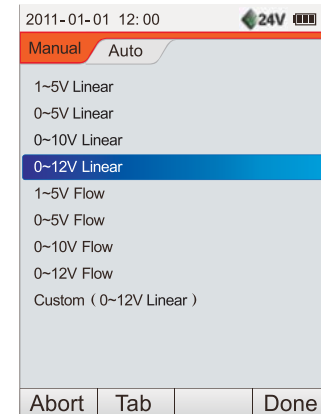

Figure 9.17 V output
3. The ruler display can be changed according to the output of the calibrated gauge. Press **F2** key to enter the source interface. Refer to Figure 9.17.